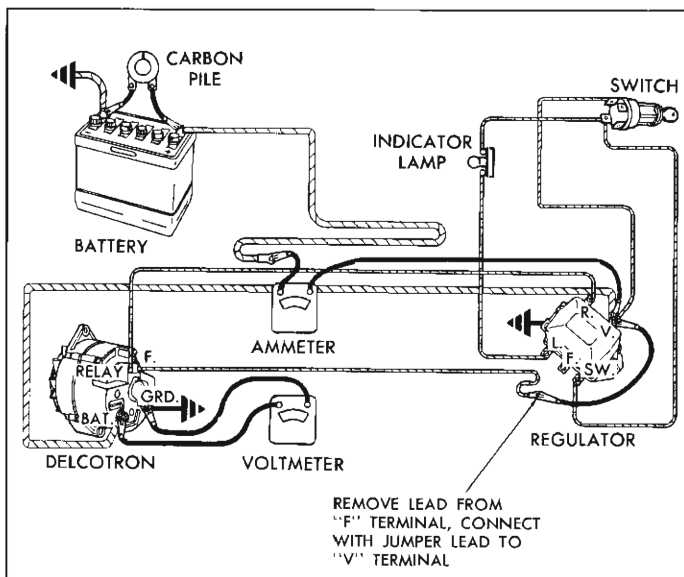

Fig. 2—Checking 5.5" Generator Output
2. Remove lead from regulator "F" terminal and connect with a jumper lead to regulator "V" terminal (fig. 2). Slowly increase generator speed and check rated output (see Specifications-Section 16).
- b. Remove lead from regulator "F" terminal and connect with a jumper lead to regulator "V" terminal (fig. 2). Slowly increase generator speed and check rated output. (See Specifications - Section 16.)